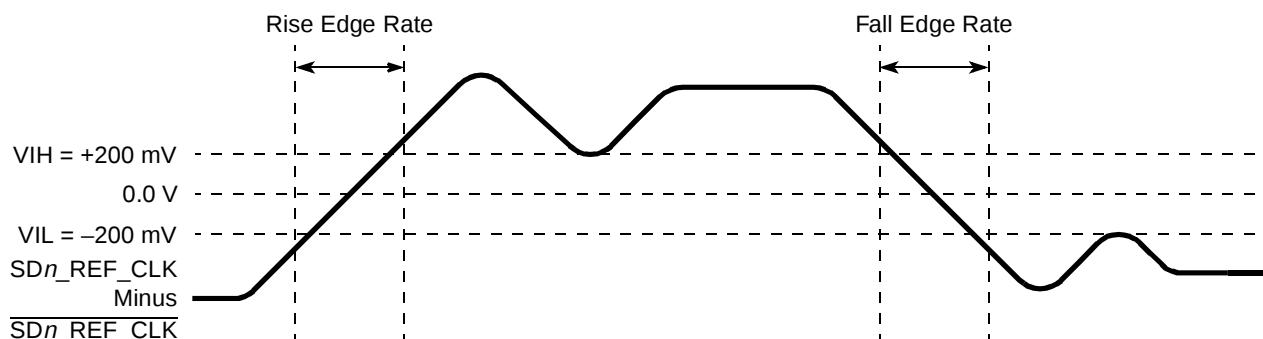

Figure 57. Differential Measurement Points for Rise and Fall Time
The differential waveform is constructed by subtracting the inverting signal ($\overline{SDn_TX}$, for example) from the non-inverting signal (SDn_TX , for example) within a differential pair. There is only one signal trace curve in a differential waveform. The voltage represented in the differential waveform is not referenced to ground. Refer to Figure 57 as an example for differential waveform.
- ³ Measured from –200 mV to +200 mV on the differential waveform (derived from SDn_REF_CLK minus $\overline{SDn_REF_CLK}$). The signal must be monotonic through the measurement region for rise and fall time. The 400 mV measurement window is centered on the differential zero crossing. See Figure 57.